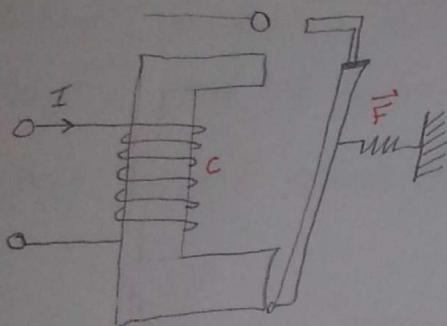

Fig. 1
- operation of electro-mechanical relay based on Force between electromagnet & armature parts to open & close the circuit as shown in Fig.1